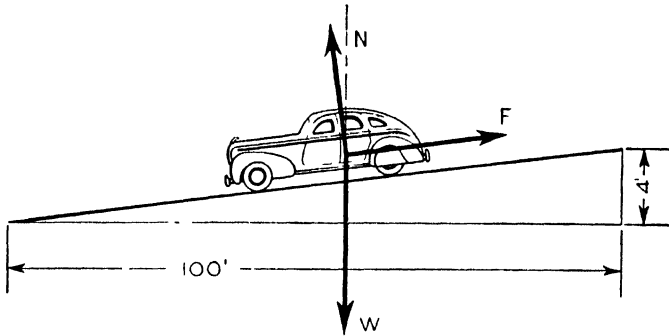

FIG. 397. ACCELERATION OF CAR, PROBLEMS 5 AND 6
5. A 3000-lb. automobile starts from rest down a 4% grade. (A 4% grade is one that rises 4 ft. in 100 ft. on the horizontal, Fig. 397.) The total constant resistance